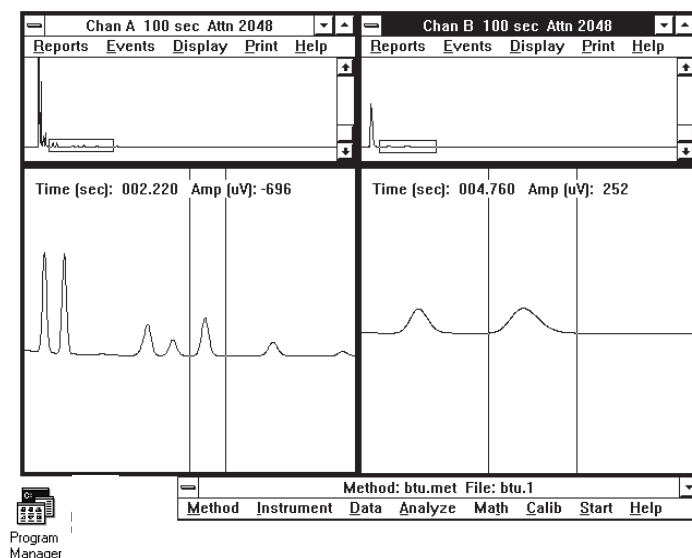

Figure 16 Using two vertical cursors
5. Drag the mouse to the right. The frozen cursor should remain, while a second, mobile cursor will appear (See Figure 16). The values for time and amplitude now displayed are **in reference to the first vertical cursor**. That is to say, the first vertical cursor now has been assigned a time and amplitude value of 0.